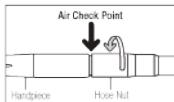
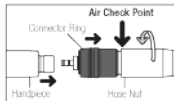

Fig. 1
Fig. 2
- 2) Tighten the Hose Nut. (Fig.1)
- 2) Slide back the Connector Ring as shown in Fig.2
Set the Air pressure at the “Air Check point” on Fig. 1 and Fig. 2 The setting values are on the specification table. Do not exceed the recommended air pressure by using Multi Gauge.